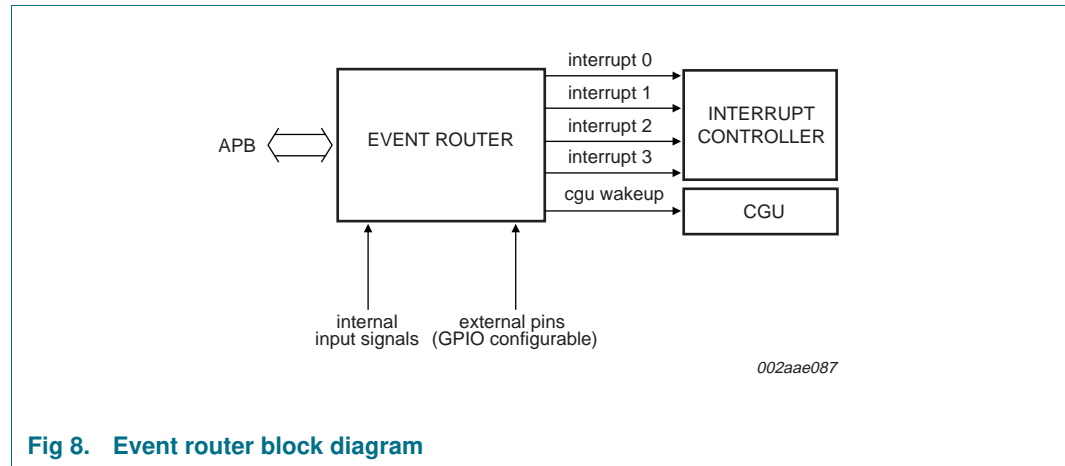

Fig 8. Event router block diagram
The event router has four interrupt outputs connected to the interrupt controller and one wake-up output connected to the CGU as shown in Figure 8. The output signals are activated when an event (for instance a rising edge) is detected on one of the input signals. The input signals of the event router are connected to relevant internal (control) signals in the system or to external signals through pins of the LPC3152/3154.
**Remark:** All pins that can be used as GPIO are connected to the event router (see Figure 8). Note that they can be used to trigger events when in normal, functional mode or in GPIO mode.